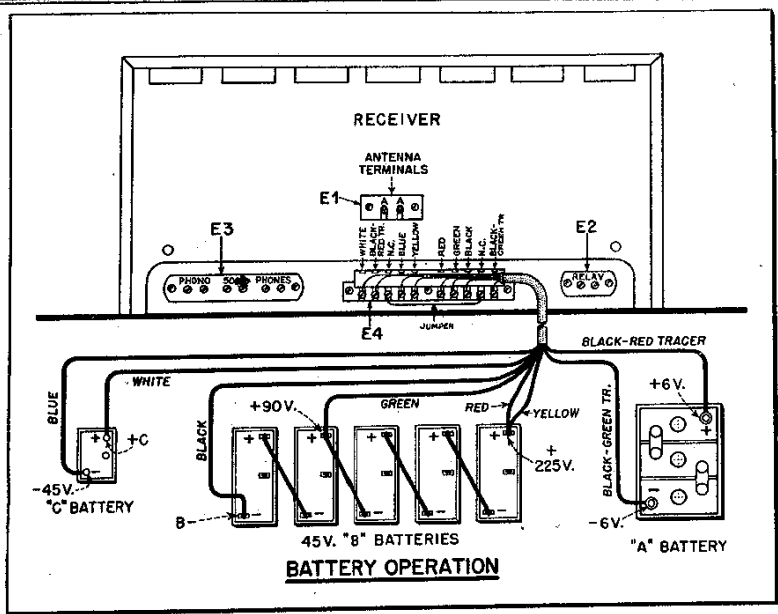

FIG. 4—Connections for power cable—battery operation.
**Connection for Battery Operation**—A cable for use in battery operation is available on special order. This cable (W2 in Parts List) has only one terminal strip. The other end of the cable is made up of eight loose wires. Connect this cable according to Fig. 4 (note the color code for the eight loose wires), or make up connections to serve the purpose. Connect the battery cable to the Receiver *first* and re-